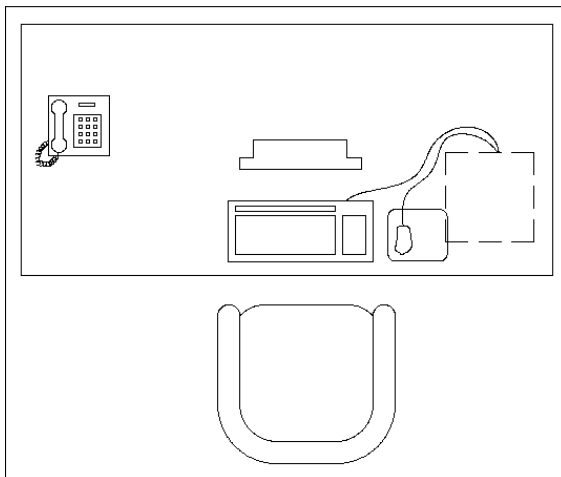

**Figure 18-23:** The office furniture is a block that can be more useful if it is dynamic.
1. Open `ab18-f.dwg` from the CD-ROM. This is a set of office furniture, as shown in Figure 18-23.